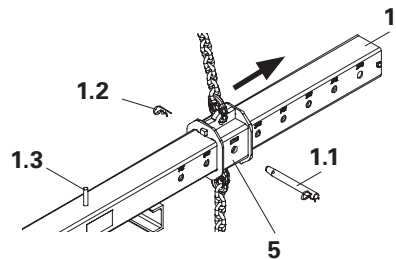
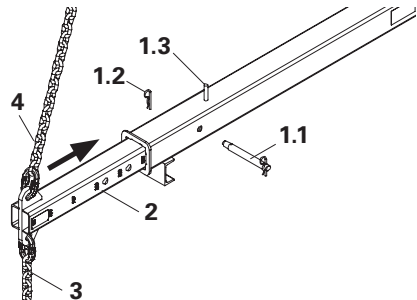

Fig. 20
Fig. 21
2. Remove positioning pins (1.1) of the slider (5). (Fig. 20)
3. Position the slider in the outermost positioning hole of the outer tube (1), insert pin and secure with cotter pin (1.2).
4. Remove positioning pin (1.1) from the inner tube (2). (Fig. 21)